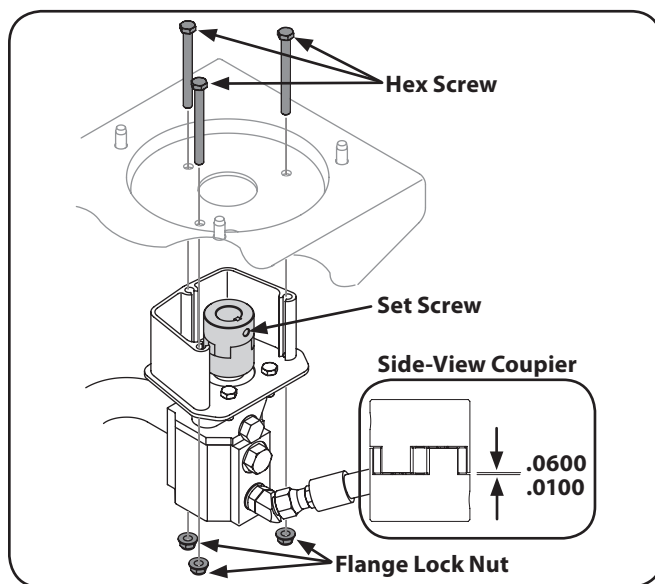

Figure 7-1
1. Remove three nuts that secure the pump to the coupling shield. Two nuts are at the bottom corners and one is in the top center. See Fig. 7-1.
11. Set .010" to .060" clearance/gap between the nylon "spider" and the engine coupling half by sliding a feeler gauge or matchbook cover between the nylon "spider" and the engine coupling half and moving pump coupling half as needed. Secure pump coupling half with set screw. See Fig. 7-1.